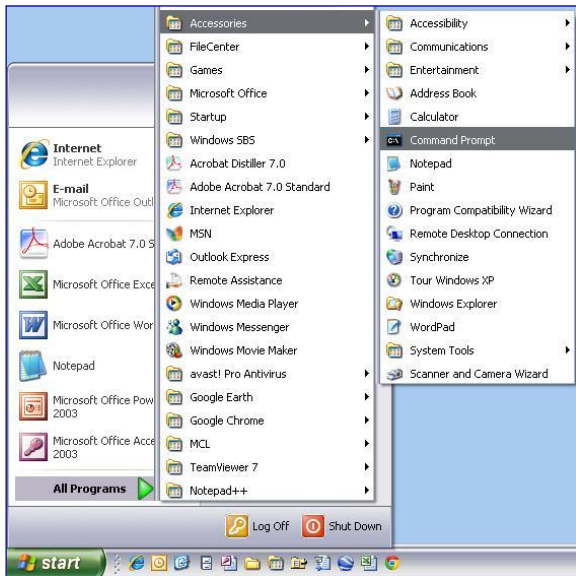

Fig 1.1.2a: Opening the Command Prompt in Windows XP
- a. For Windows XP[®] (see Fig 1.1.2a):